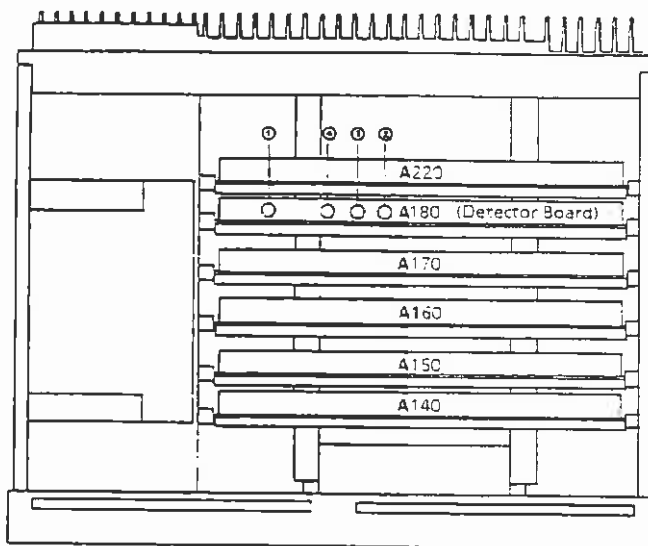

Fig. 4-7 Position of the adjustment points for the module DETECTOR BOARD
- ▶ Turn the potentiometer "INST FULL SCALE" ① R354 (fig. 4-7) such that the indication of the instrument is identical with the 50-dB mark.